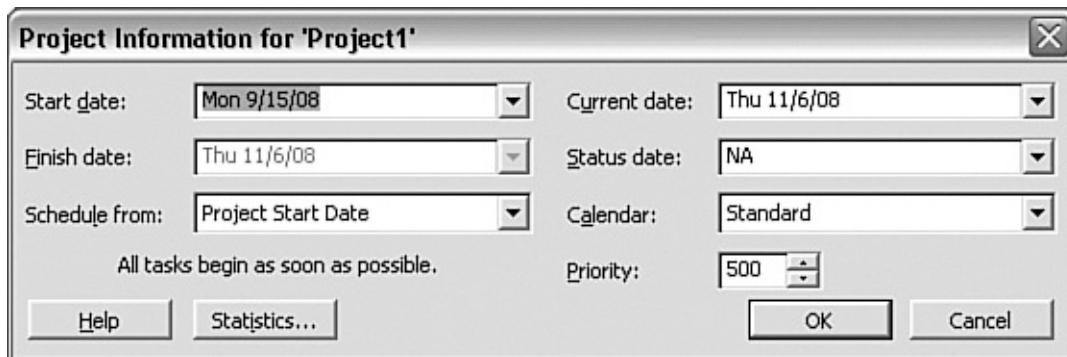

Figure 23.6. Dialog used to set Project Start Date.
- **Set Project Start Date**—Control the date Project uses as the beginning date for your schedule by setting the Project Start Date. This is done in the Project Information dialog shown in Figure 23.6.